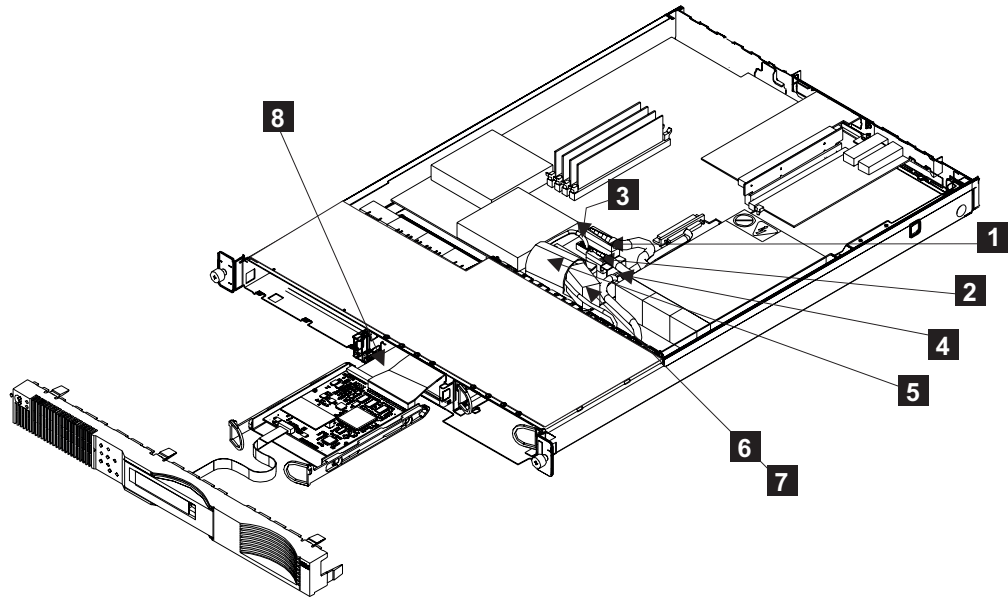

Figure 92. Service controller cables
5. Refer to Figure 92 on page 151.